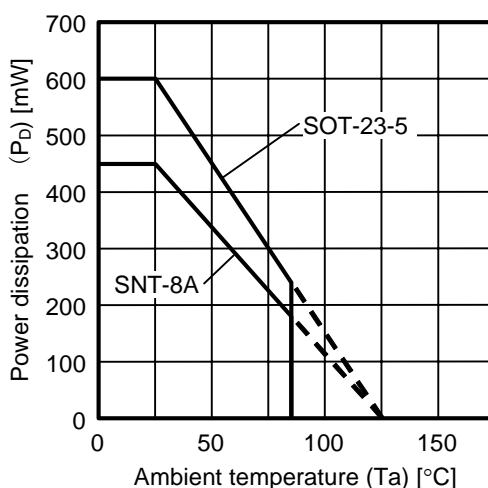

Figure 5 Power Dissipation of Package (Mounted on Board)
- Since this IC has a built-in power MOS FET, make sure that dissipation of the power MOS FET does not exceed the allowable power dissipation of the package. (Refer to Figure 5.)